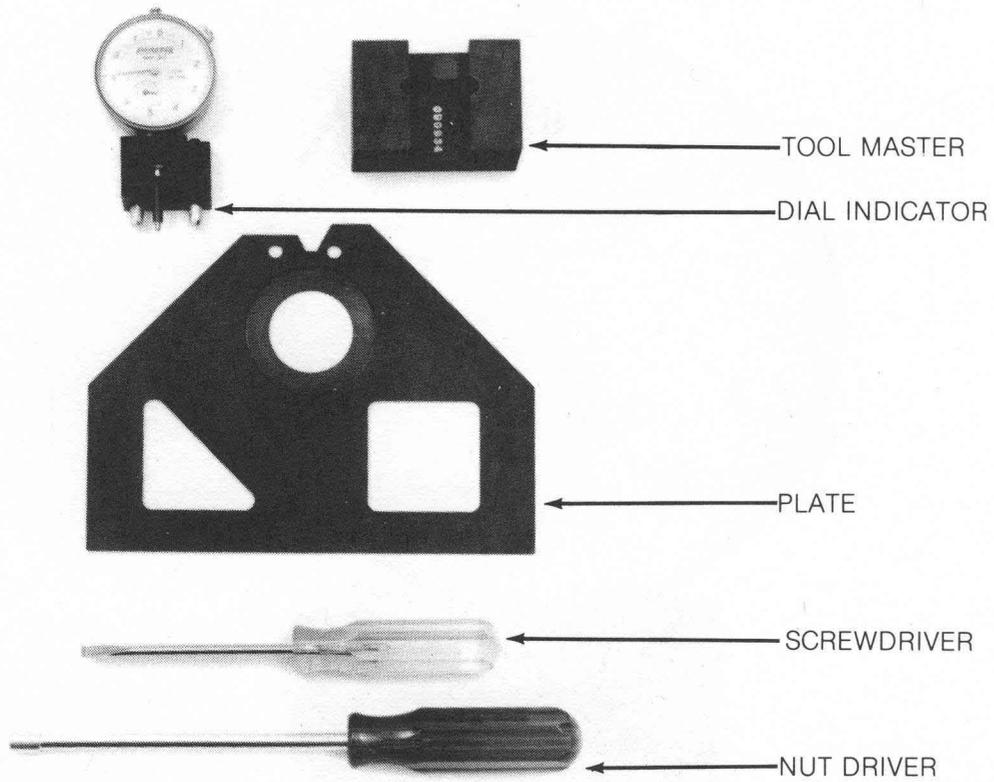

FIGURE 38. HEAD PENETRATION TOOLS
- a. The tools necessary to perform this alignment procedure will consist of penetration gauge tool set, screwdriver and 1/4" nut driver (see Figure 38).